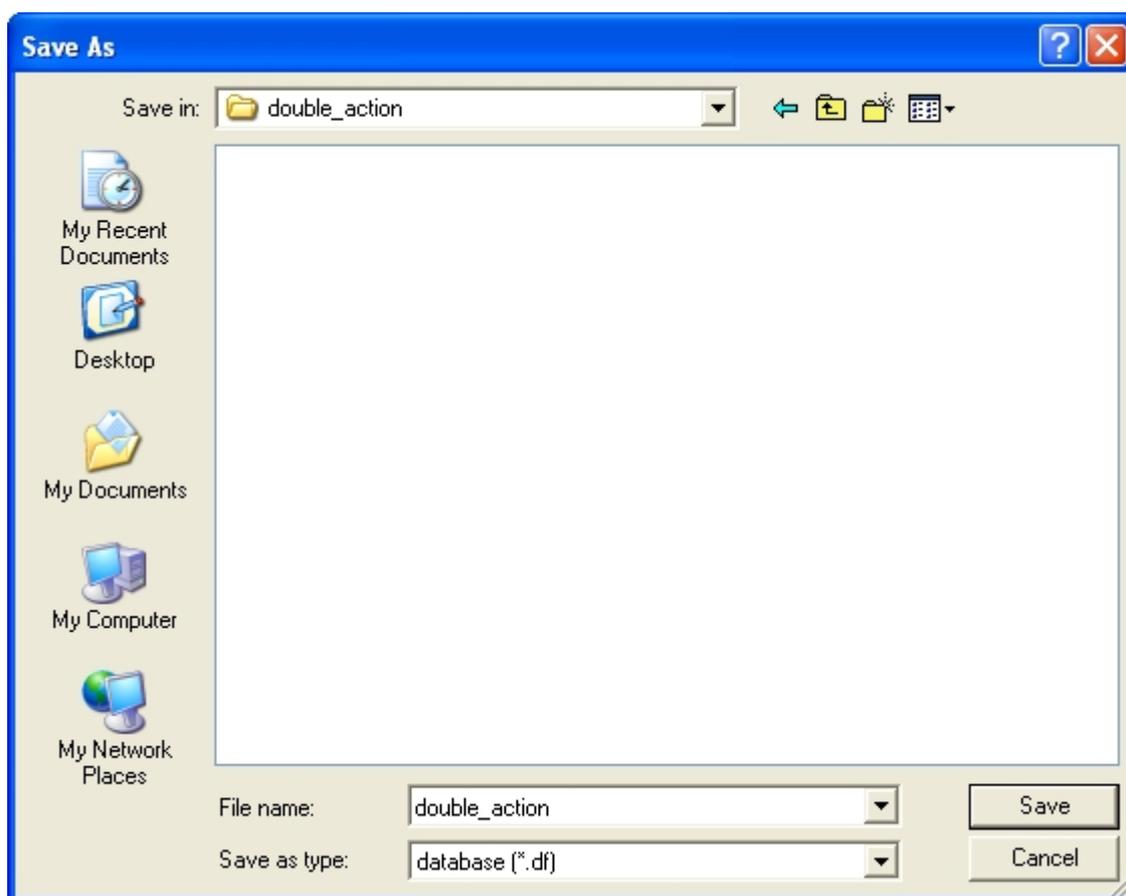

Figure 2.3 Save as file
3. Save the database to the designated working directory. Select **File**→**Save as** from the menu bar. Next, type in “**double_action.df**” at the File Name data input field, as illustrated in Figure 2.3. Then, click **Save** to save the database and dismiss the dialog window.